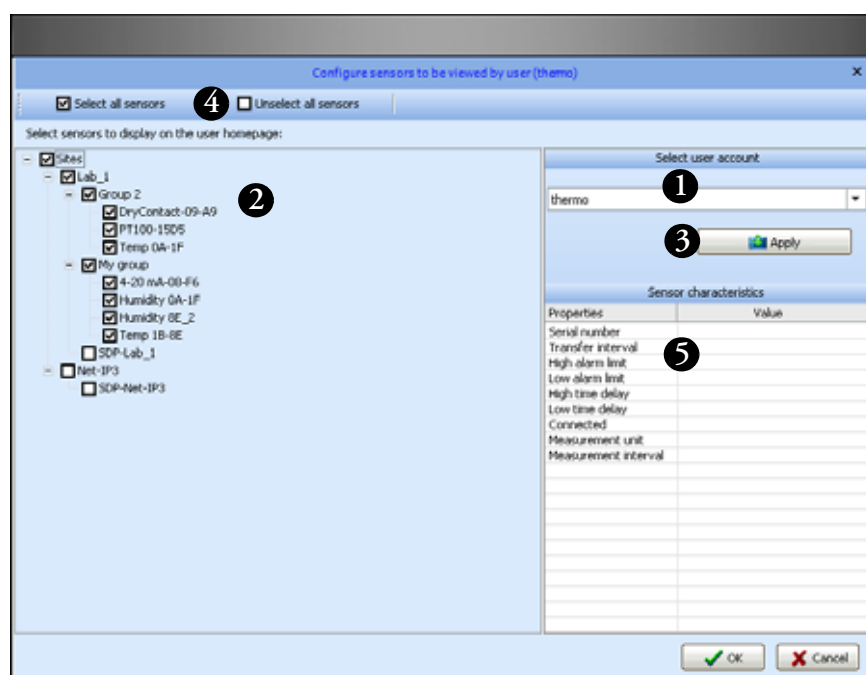

Figure 49. Assigning viewable sensors to users
2. Choose a user from the user account drop-down menu (#1 in Figure 49).